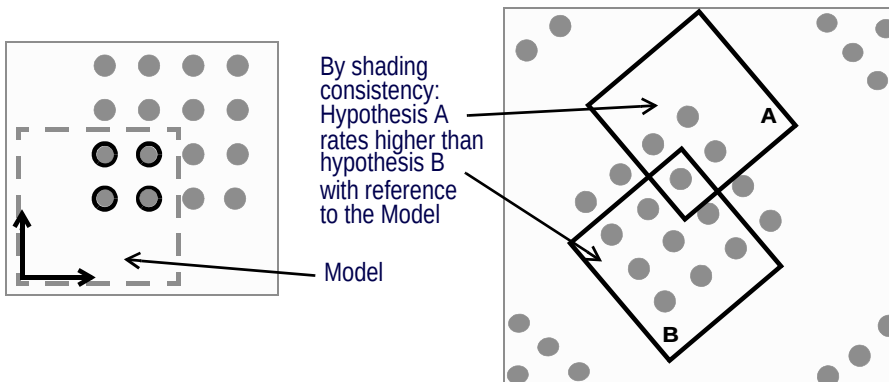

Figure 159 Instance Ordering - Shading Consistency
- **Shading Consistency** orders instances according to their shading consistency (or color, depending on the input image) with respect to the Model, beginning with the strongest. This mode is useful for BGA applications, where the shading or color information, in addition to the normal contour information, can assist in discriminating between very similar hypotheses. See the example in Figure 159.